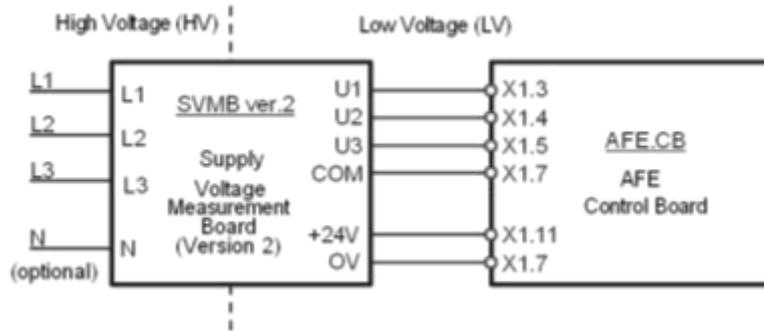

Fig. 8-5 Grid measurement circuit by means of SVMB ver.2 for AFE
The SVMB ver.2 should be connected to the grid phase voltages on the high voltage (HV) side and provides for galvanically isolated conversion to the low-voltage (LV) side which should in turn be connected to (and fed from) the user I/O on the AFE control board (CB), see Fig. 8-5.